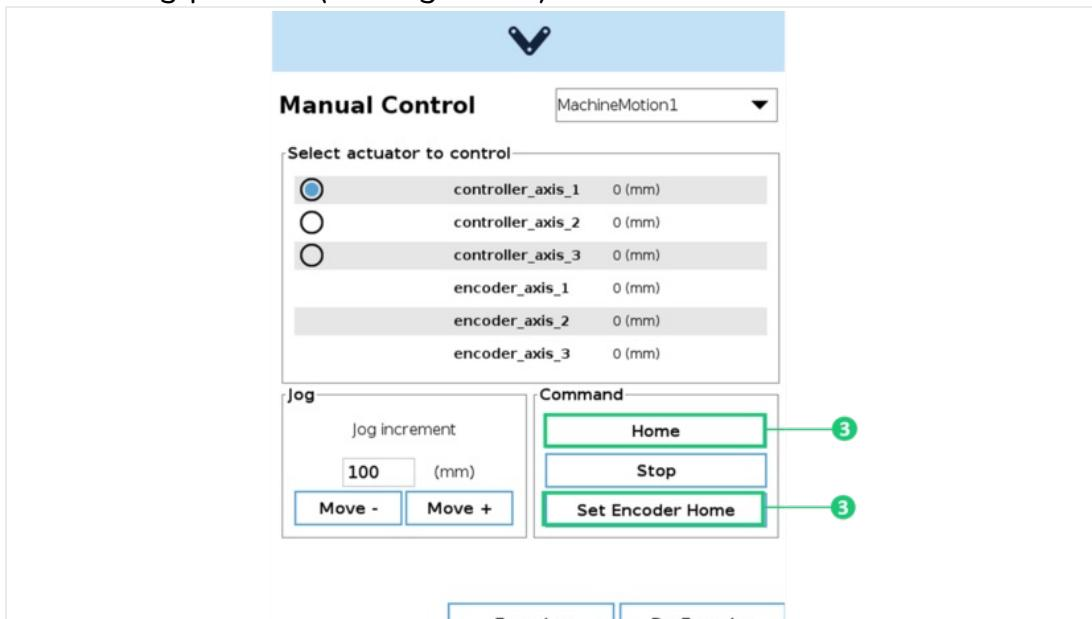

Figure 25: Click Home and Set Encoder Home when using the Move to Position command. Click Set Encoder Home for Relative Move.
5. Once the axis is in the desired position, click **Teach Position** in the command screen (Figure 25)